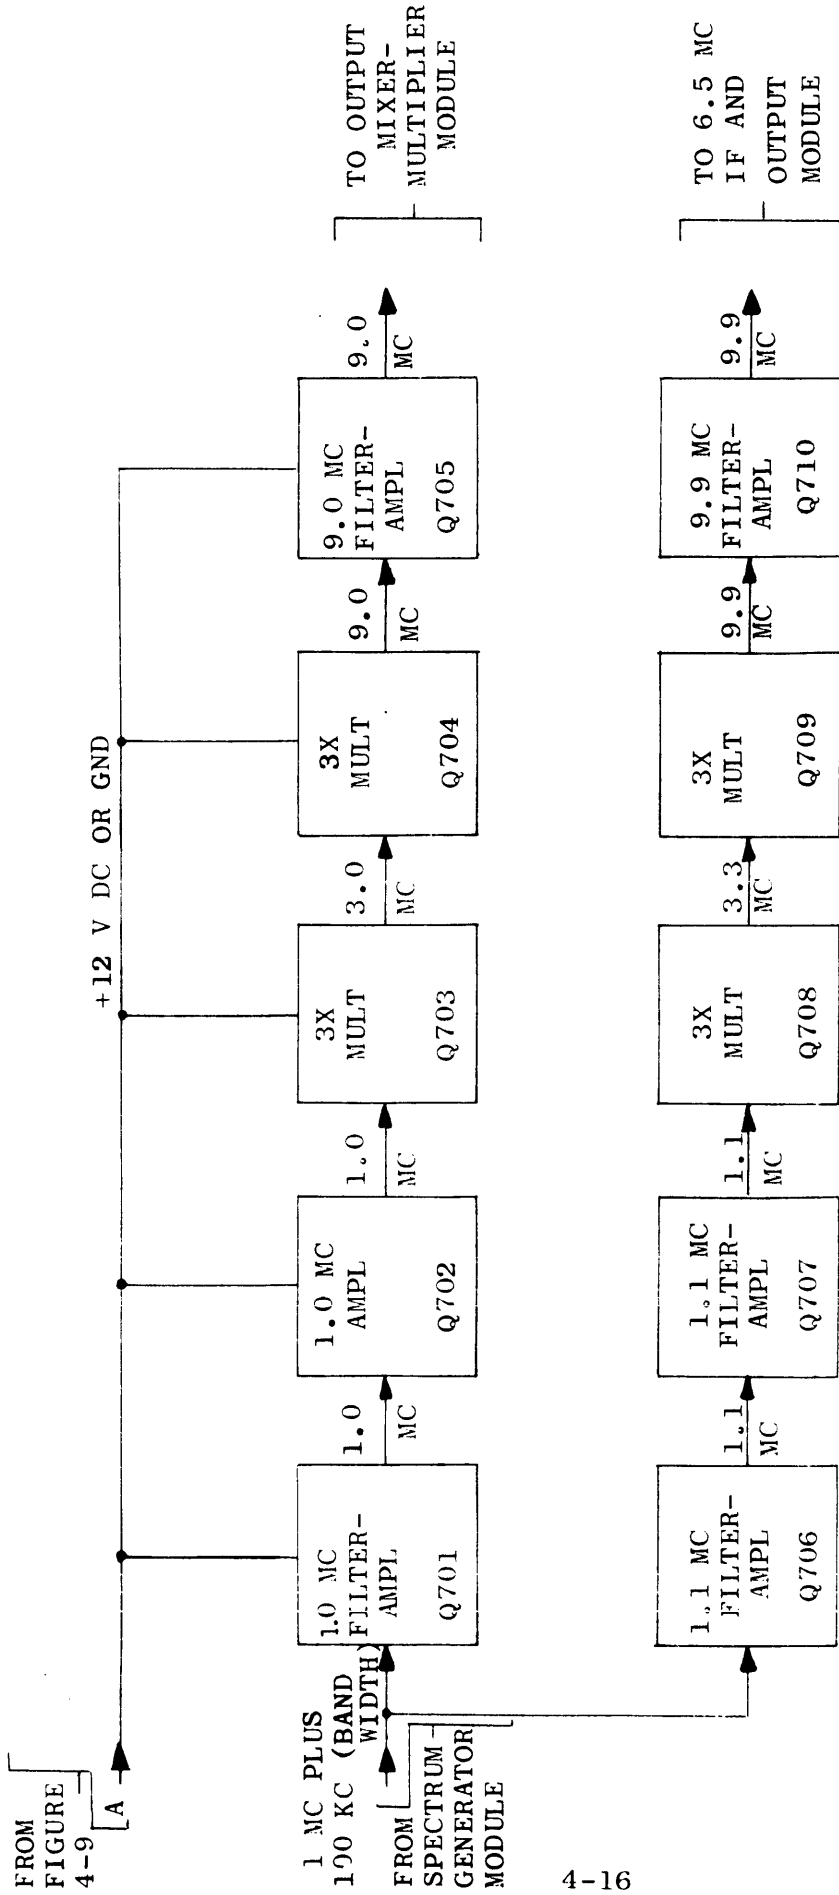

Figure 4-8. 9.0 and 9.9 Megacycle Generator Module, Functional Block Diagram
f. 9.0 AND 9.9 MEGACYCLE GENERATOR MODULE. - Refer to figure 4-8. The 9.0 and 9.9 Megacycle Generator Module utilizes a 1 megacycle signal from the Spectrum Generator Module to produce 9.9 megacycle signals at its output terminals.